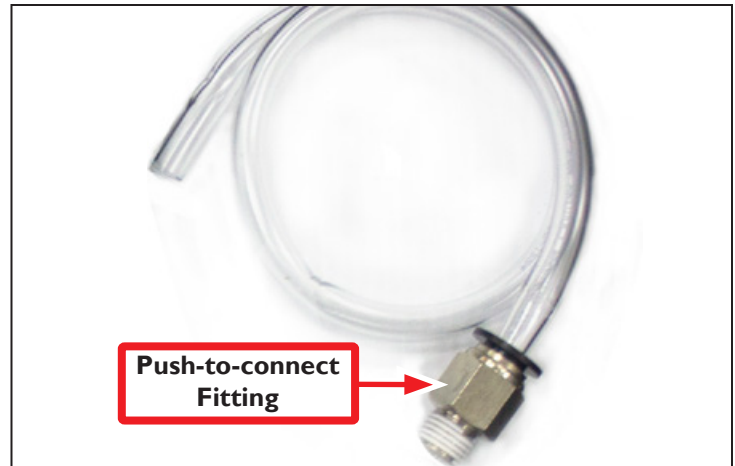

Figure 17
5. Remove Push-to-connect Fitting from Tube (see **Figure 17**); install on Coolant Hose Adapter using adjustable wrench (see **Figure 16**).